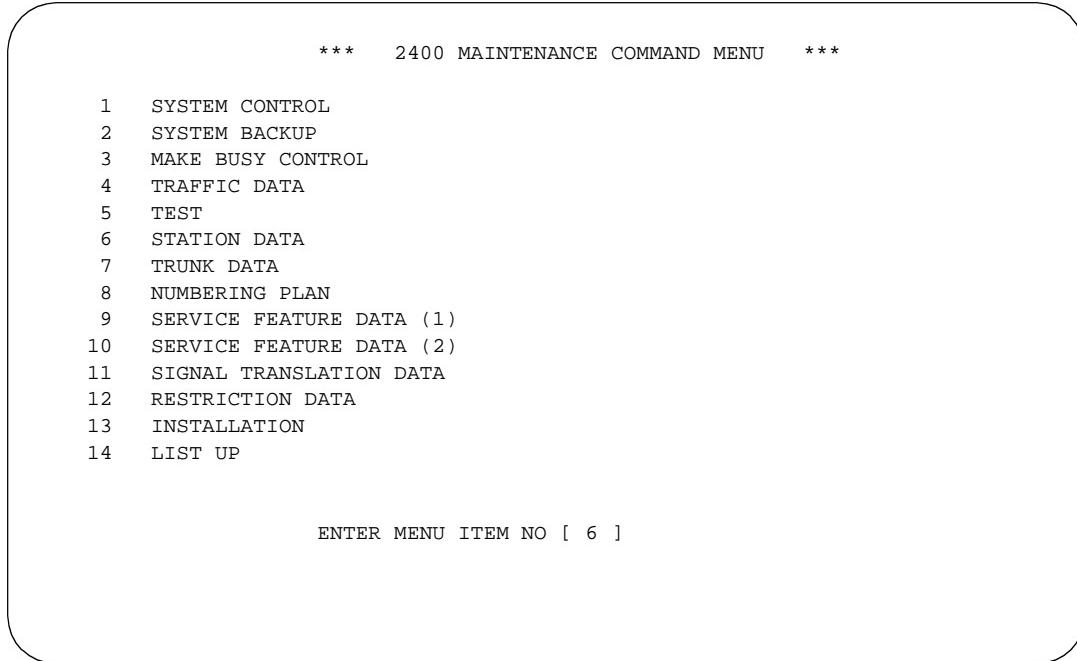
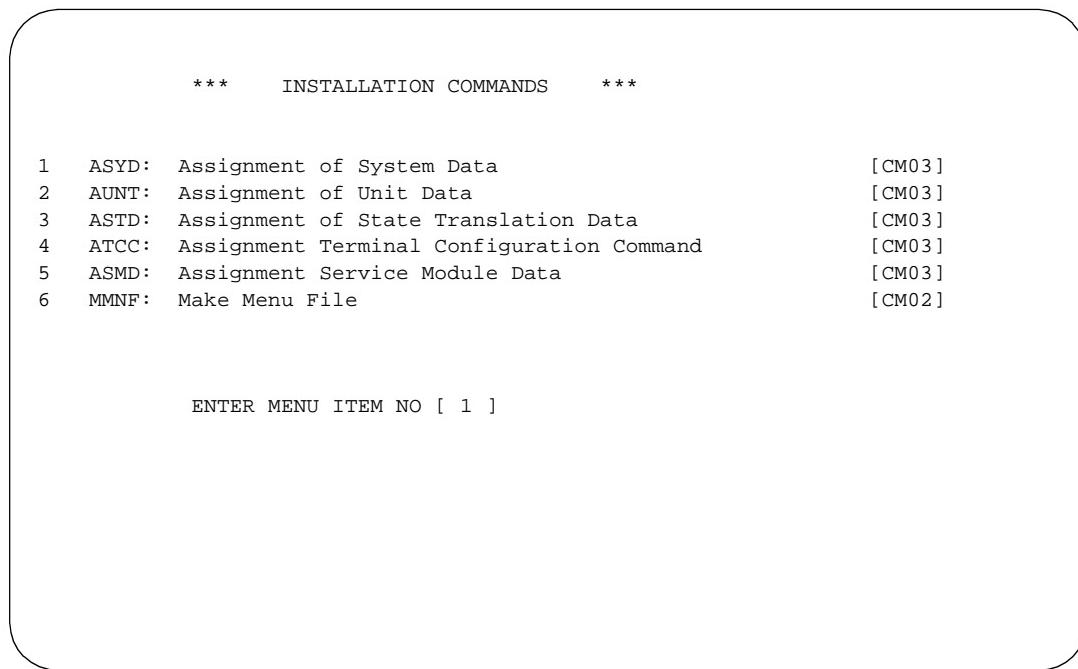
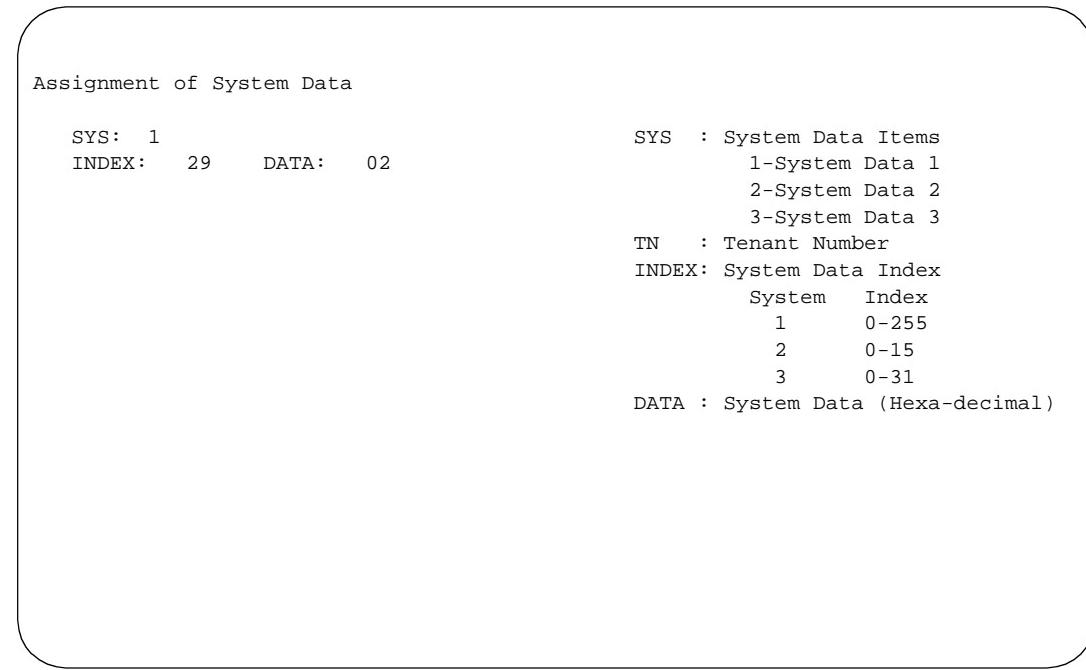

Figure 7-1. 2400 Maintenance Command Menu
Figure 7-6. Installation Commands Menu
Figure 7-8. Assignment of System Data Screen
2. After you log on to the MAT, you see the 2400 Maintenance Command MENU as shown in Figure 7-1.
1. At the 2400 Maintenance Command menu, shown in Figure 7-1., enter **13** to select the Installation option. After you select the option, you see the Installation Commands menu as shown in Figure 7-6.
6. After entering the information, press **/** to exit the screen and return to the Installation Commands menu as shown in Figure 7-6.
1. At the Installation Commands menu, shown in Figure 7-6., enter **1** to select the System Data option. After you press **ENTER** you see the ASsignment Of Station Data screen as shown in Figure 7-8.
To use the chart, find the port number you want to use under the Port heading. When you find the port number, find the Data value in the Data column across from the port number. One port is reserved for the MAT. The example in Figure 7-8. uses port 1 (Data 02).
5. After entering the information, press  to exit the screen and return to the Installation Commands menu as shown in Figure 7-6.
1. At the Installation Commands menu, shown in Figure 7-6., enter **1** to select the System Data option. After you press **ENTER**, you see the Assignment of Station Data screen as shown in Figure 7-9.
1. At the INSTALLATION COMMANDS menu, shown in Figure 7-6., enter **1** to select the System Data option. After you press **[ENTER]**, you see the ASSIGNMENT OF STATION DATA screen as shown in Figure 7-10.